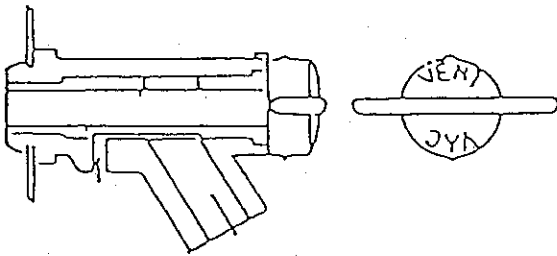

Fig. 3
- ① Regenerate the molecular sieve in the condenser completely and cool it.
- ② Fasten the lid of the condenser securely with knurled screw.
- ③ Set the condenser in the chamber.
- ④ Connect the vacuum pump and the hose nipple of the main body with a vacuum hose.
- ⑤ Turn off the purge switch.
- ⑥ Turn the valve to " VENT " to close. (Fig. 3)
- ④ Set the timer. Timer should be adjusted according to the quantity and kind of the sample.
- ⑤ Turn the buzzer " ON " .
(3) Stopping operation.
- ① Check the condition of the sample before terminating the drying process.
- ② When the freeze drying is finished, turn the valve to " VENT " and take off the sample containers. (Fig. 3)
- ③ Turn the purge switch " ON " before you stop the vacuum pump.
- ④ Turn the buzzer switch " OFF " to stop the buzzer.